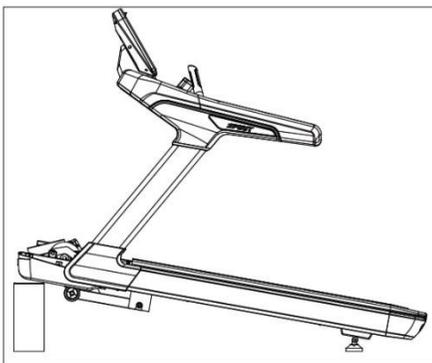
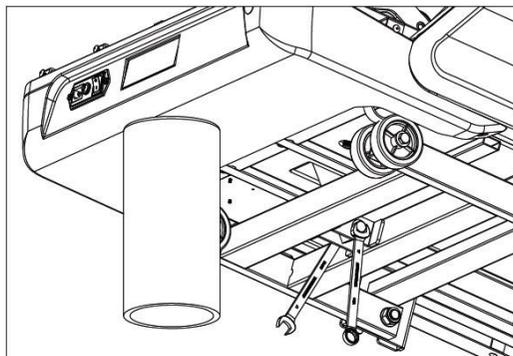
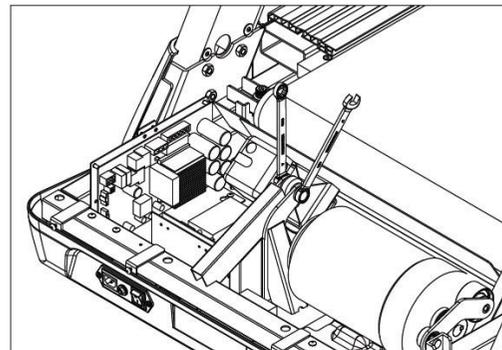

Figure 4.7.1
Figure 4.7.2
Figure 4.7.3
2) As shown in Figure 4.7.1, Figure 4.7.2, Figure 4.7.3, use e.g. a paper tube to support the device on the front side. Use a wrench to remove the incline motor, which is fixed on main frame.